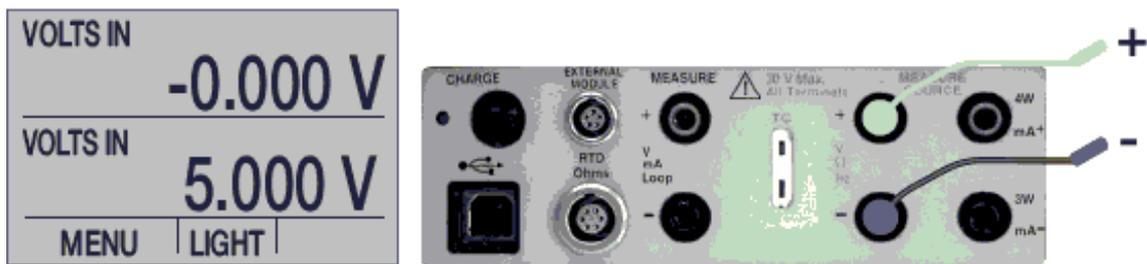

Figure 5. Measuring volts and frequency with Input/Output Terminals
- Connect leads as shown in Figure 5.